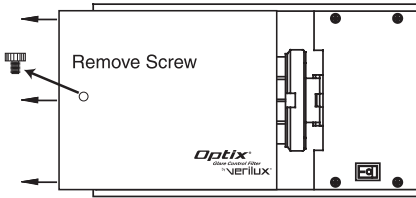

FIG 1
2. Screw post (B) into the base (A) and hand tighten.
3. Screw post section (C) into post (B) and hand tighten.
4. Rotate shade (G) to right angle with body (E) and parallel to the floor. Then, use the (included) Allen wrench (F) to carefully tighten the screw.
5. Loosen the thumbscrew (D) to adjust the lamp height. Raise or lower the lamp body (E) to the desired height and tighten the thumbscrew (D).
6. Remove thumbscrew from Optix® filter on lamp head and carefully slide filter out of channel and place on clean surface (Fig. 1).